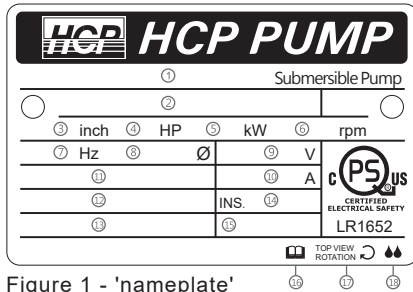

Figure 1 - 'nameplate'
- Every pump has its own 'Nameplate' (see Figure 1). Make sure the information including 'Model Name', 'Output' (horsepower), 'Voltage', 'Frequency', 'Phase' and, 'rpm' information are correct. Contact an authorized local dealer or HCP sales representative if you have any questions regarding the 'Nameplate'.